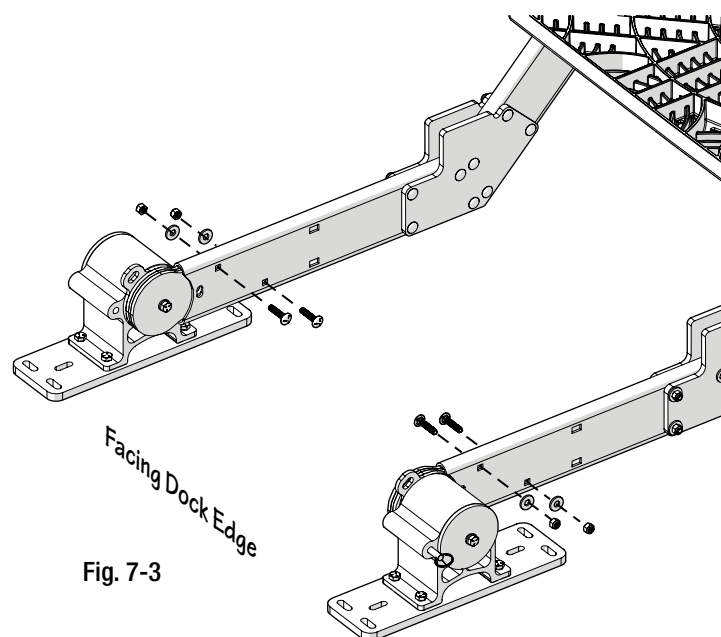

Fig. 7-3
- Insert 2 (5/16 x1-1/2") carriage bolts from the inside of the ladder frame through the upper frame & base/housing plate as shown in Fig.7-3.